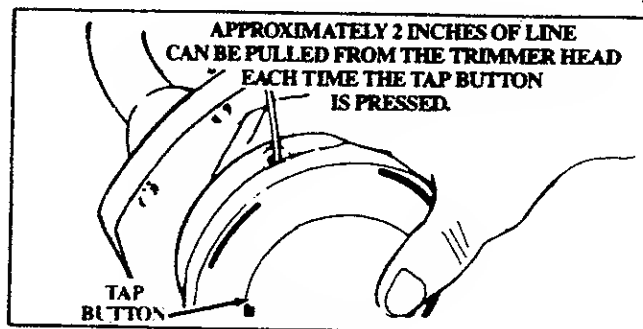

Figure 20
- Pull on the Line to change the Spool from the locked position to the operating position. Figure 20.
NOTE: Each time the Tap Button is pressed, approximately 2 inches of line can be pulled from the Trimmer Head. Figure 20.